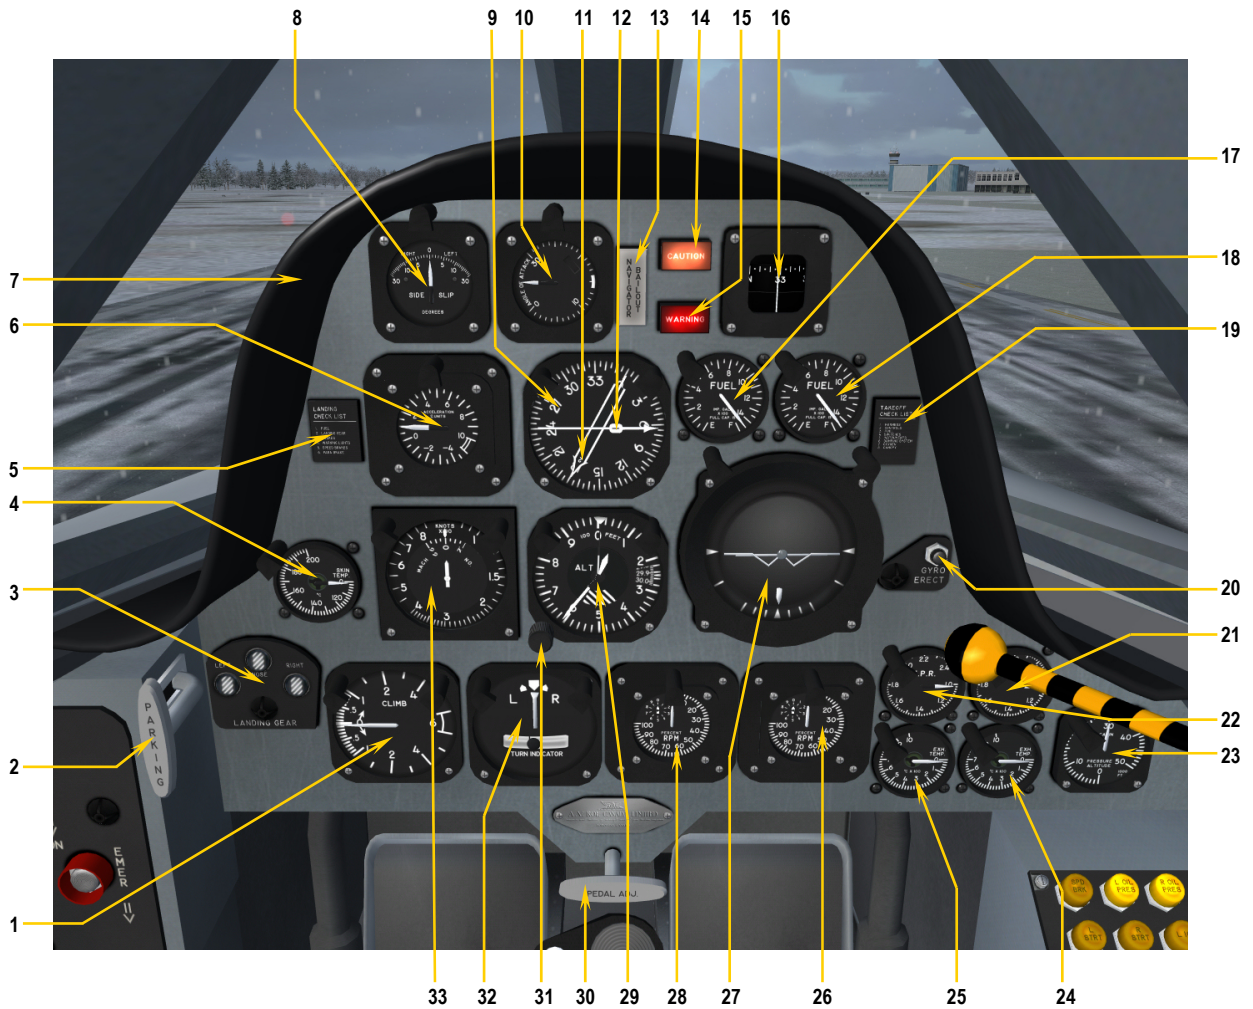

Figure 5-2a
Airspeed/Mach indicator [33, fig. 5-2a; 7, fig. 5-2b] — White needle displays indicated airspeed in knots (KIAS). Small window displays Mach numbers.
Altimeter [29, fig. 5-2a; 6, fig. 5-2b] — Standard sensitive altimeter with barometric setting knob.
Artificial (gyro) horizon [7, fig. 5-2a; 16, fig. 5-2b] — Can be caged for aerobatic maneuvers (RL-201-202).
Gyro compass remote indicator [9, fig. 5-2a; 31, fig. 5-2b] — Rotating card indicates gyro heading. Single needle (1) points to selected VOR station. Double (ADF) needle (2) points to selected NDB station.
Vertical accelerometer [6, fig. 5-2a; 5, fig. 5-2b] — Indicates number of “g”s pulled in the vertical plane.
Sideslip indicator (beta) [8, fig. 5-2a; 9, fig. 5-2b] — Indicates the angle of sideslip in degrees.
AoA indicator (alpha) [10, fig. 5-2a; 15, fig. 5-2b] — Indicates angle-of-attack in degrees.
Navigator bail-out annunciator [13, fig. 5-2a; 11, fig. 5-2b] — Indicates that the pilot has given the ejection order to the navigator.
Red master warning annunciator [15, fig. 5-2a; 13,
Yellow master caution annunciator [14, fig. 5-2a, 5-2b] — Indicates a situation that requires attention (refer to the caution and warning system on page 5-8; see also fig. 5-7).
Magnetic compass [16, fig. 5-2a] — Non gyro-stabilized, subject to acceleration and turn errors (RL-201-202 only).
Left and right fuel quantity indicators [17-18, fig. 5-2a; 23-24, fig. 5-2b] — Available fuel in Imperial gallons.
Skin temperature indicator [4, fig. 5-2a; 32, fig. 5-2b] — Indicates skin temperature in degrees C at high Mach numbers.
Vertical speed indicator [1, fig. 5-2a; 17, fig. 5-2b] — Indicates rate-of-climb in feet per minute.
Turn indicator [32, fig. 5-2a; 18, fig. 5-2b] — Indicates rate of turn.
Left and right RPM indicators [26, 28, fig. 5-2a; 25, 28, fig. 5-2b] — Primary power setting instruments.
Left and right exhaust gas temperature (EGT) indicators [24-25, fig. 5-2a; 26-27, fig. 5-2b] — EGT is a limiting factor for engine operation.
Left and right engine pressure ratio (EPR) indicators [21-22, fig. 5-2a, 5-2b] — EPR gives a good indication of actual thrust being produced.
Cabin altitude indicator [23, fig. 5-2a; 19, fig. 5-2b] — Indicates the pressure altitude inside the cabin.